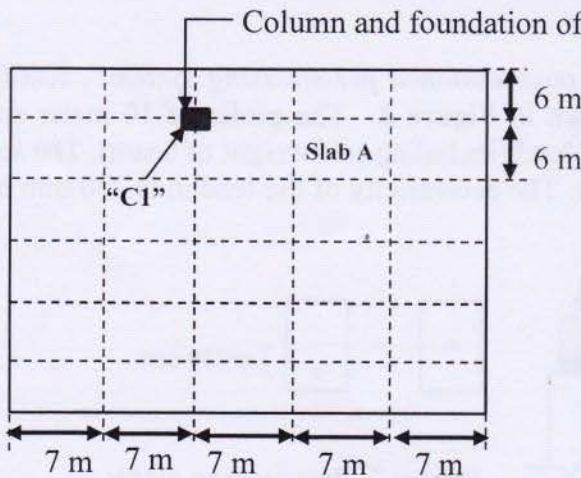

Figure 4. Layout plan of flat slab
- a. The floor of 6 storeyed residential building (live load 2 kN/m^2) is constructed with reinforced concrete flat slab as shown in **Figure 4**. The dead load of the slab due to random wall (excluding self-weight) is 2 kN/m^2 . Design **long span column strip** of the slab **Panel A (7 m x 6 m)** of the floor as shown in **Figure 4** with checking for shear, deflection and crack. Assume required data to design. The column size could be assumed as 500 mm x 500 mm. [15]
- b. The interior column **C1** (**Figure 4**) of 6 storeyed residential building stated in **Question 3(a)** is required to design as **tiered column** for axial load and 300 kN.m uniaxial bending moment. The smaller dimension of column is 300 mm. Design the first floor column of "C1" with economical design and show reinforcements details. Use **column design chart** as shown in attachment to design the column. [15]
- a. Design the isolated base of the column "C1" of **Question 3(b)** as shown in **Figure 4**. Provide optimal depth of base considering all critical parameters. The safe bearing capacity of soil is 170 kN/m². [15]